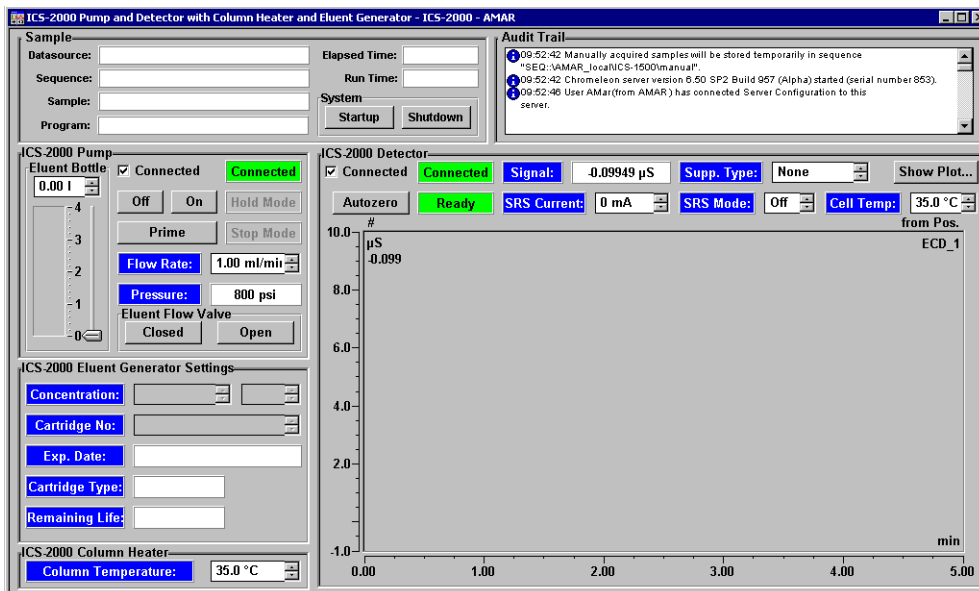

Figure 2-11. ICS-2000 System Control Panel (Traditional)
- Traditional system panels (see Figure 2-11) provide controls on a single window with minimal graphics.